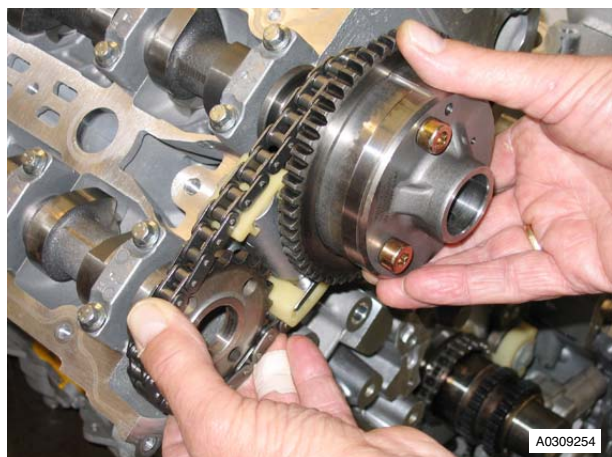

Figure 3
- Release and remove the camshaft sprockets complete with the timing chain and tensioner from the camshafts (refer to Figure 3).